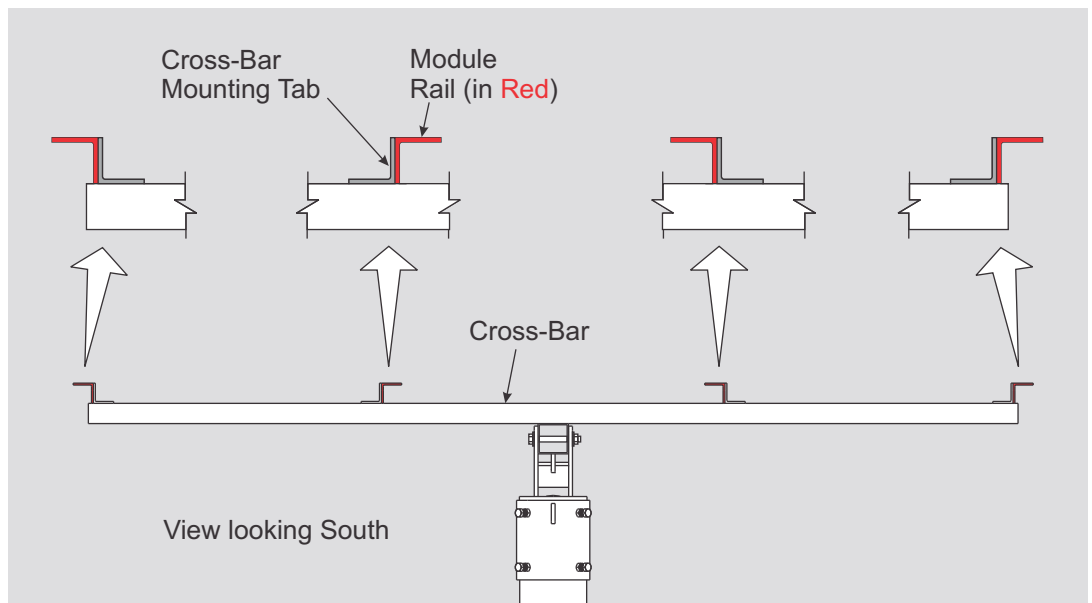
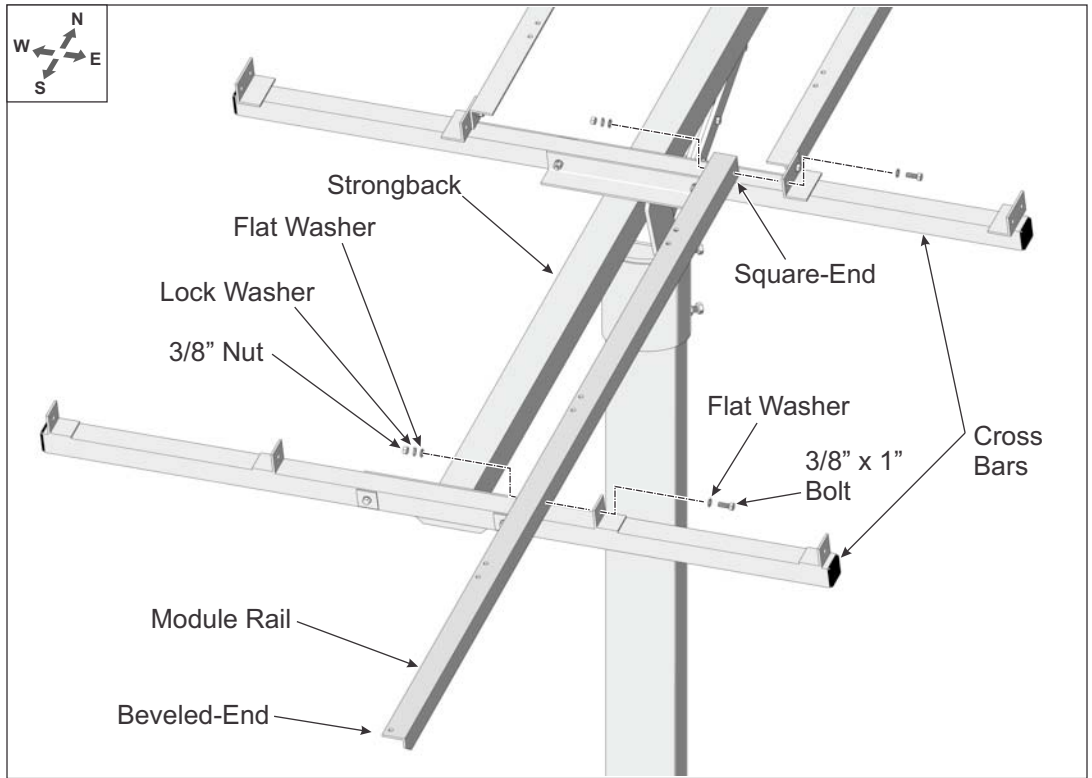

Figure 4-1: Orientation of Module Rails to Cross-Bars
Figure 4-2: Installing the Northern-most Inboard Module Rails to Cross-Bars
Additionally, Module Rails are installed differently depending on whether they are mounted inboard or on the outer edges of the Cross-Bars. (See Figure 4-1)
- Referring to Figure 4-1 for orientation of the inboard Module Rails, position the first section of Module Rail (with its angle cut end positioned north) at the northern most position on the Cross-Bars. Align the Module Rail mounting holes with the holes of the Cross-Bar mounting tabs and secure with 3/8" x 1" bolts and hardware. Finger-tighten for now. (See also Figure 4-2)
- A. Referring to Figure 4-1 for orientation of the outboard Module Rails, position the first section of Module Rail (with its angle cut end positioned north) at the northern most position on the Cross-Bars. Align the Module Rail mounting holes with the holes of the Cross-Bar mounting tabs and secure with 3/8" x 1" bolts and hardware. Finger-tighten for now. (See Figure 4-4)